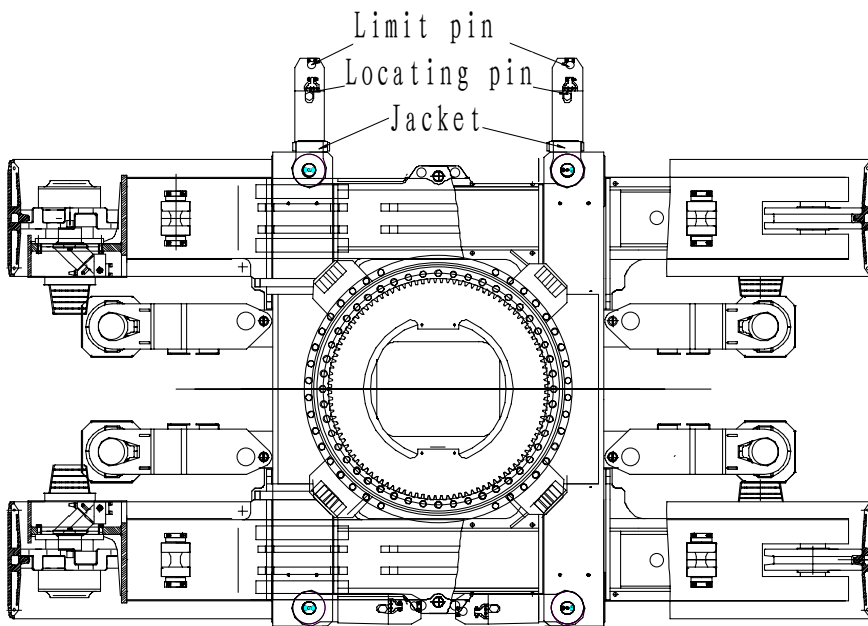

Fig. 5-22
3. Turn extended bracket till it is vertical to the carbody, insert the jacket as shown in Fig. 5-22